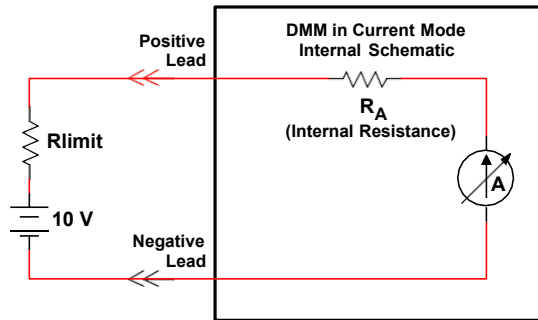

Figure 2.1 – Experimental Setup without Load
1. **Set up** the circuit in **Figure 2.1**, attaching the DMM to measure the current through R_{LIMIT} .
2. **Calculate** a value for resistor R_{LIMIT} in **Figure 2.1** using Ohm's law. The goal is to let **only** 50mA flow into the DMM. **Assume** R_A is 0Ω for this calculation.